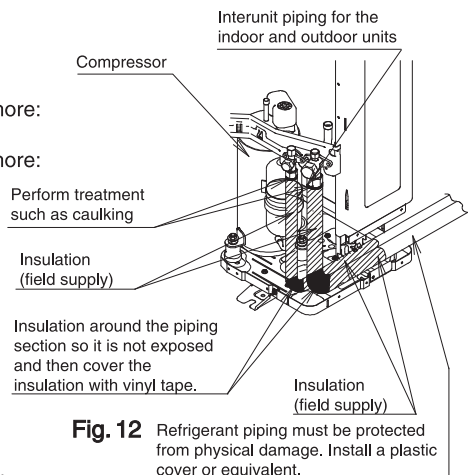

Fig. 12 Refrigerant piping must be protected from physical damage. Install a plastic cover or equivalent.
- Take caution so that the refrigerant piping between the outdoor and indoor may not touch the compressor bolt and sound proof cover and the plate as shown Fig 12.